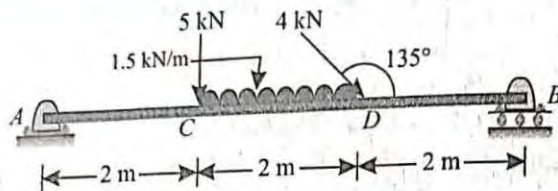

Fig. 9.19.
**Example 9.7.** A beam  $AB$  of 6 m span is loaded as shown in Fig. 9.19.